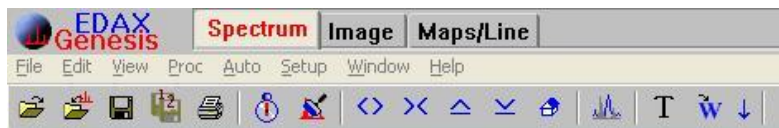

Figure 31. Location of scale expansion/contraction arrow icons.
- Alternately, click on the spectrum window and then move the cursor up to the upper left area and click on one of the expand/contract v-shaped arrows to accomplish a similar scale adjustment for the expected upper limit of the spectral data. (Figure 31.)